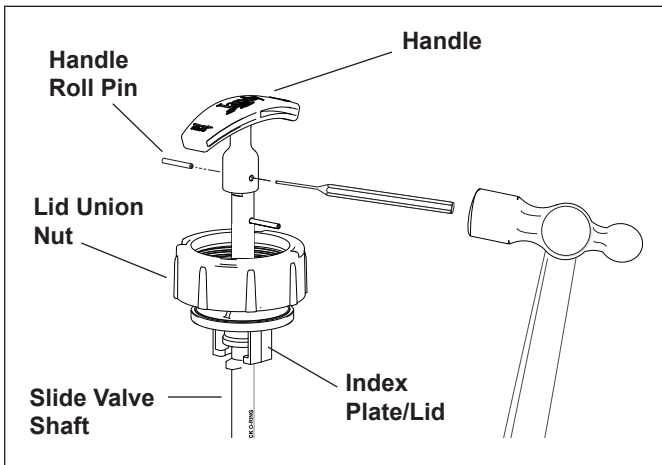

Figure 4. Remove Handle Roll Pin - Top Half of Slide Valve Shaft Shown
1. Using a punch and a ball peen hammer, tap the existing roll pin out of the slide valve handle (see Figure 4). Remove the handle.